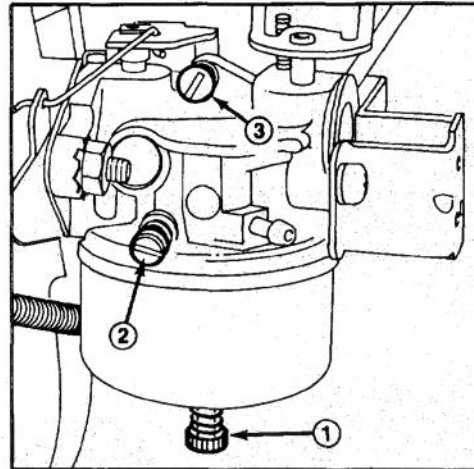

Figure 31
2. Power adjusting screw (Fig. 31) — Close screw by gently rotating it clockwise until a slight seating resistance is felt. Next, rotate
3. Idle mixture screw (Fig. 31) — Close screw by gently rotating it clockwise until a slight seating resistance is felt. Next, rotate idle mixture screw 1½ full turns counterclockwise.
5. Rotate power adjusting screw (Fig. 31) clockwise — in — 1/8 turn at a time until engine misses because of a lean gasoline mixture. Then rotate screw counterclockwise — out — 1/8 turn at a time until engine runs unevenly because of a rich gasoline mixture. Next, rotate power adjusting screw clockwise, back to the midpoint between the rich and lean setting so engine runs smoothly.
6. Move throttle to idle speed. Next, rotate idle speed screw (Fig. 31) until engine idles fast — 1750 rpm.
7. Rotate idle mixture screw (Fig. 31) clockwise — in — 1/8 turn at a time until engine begins to miss because of a lean mixture. Then rotate screw counterclockwise — out — 1/8 turn at a time until engine runs unevenly because of rich mixture. Next, rotate idle mixture screw clockwise, back to the midpoint between rich and lean setting.
8. Again, rotate idle speed screw (Fig. 31) until engine idles at 1750 rpm.